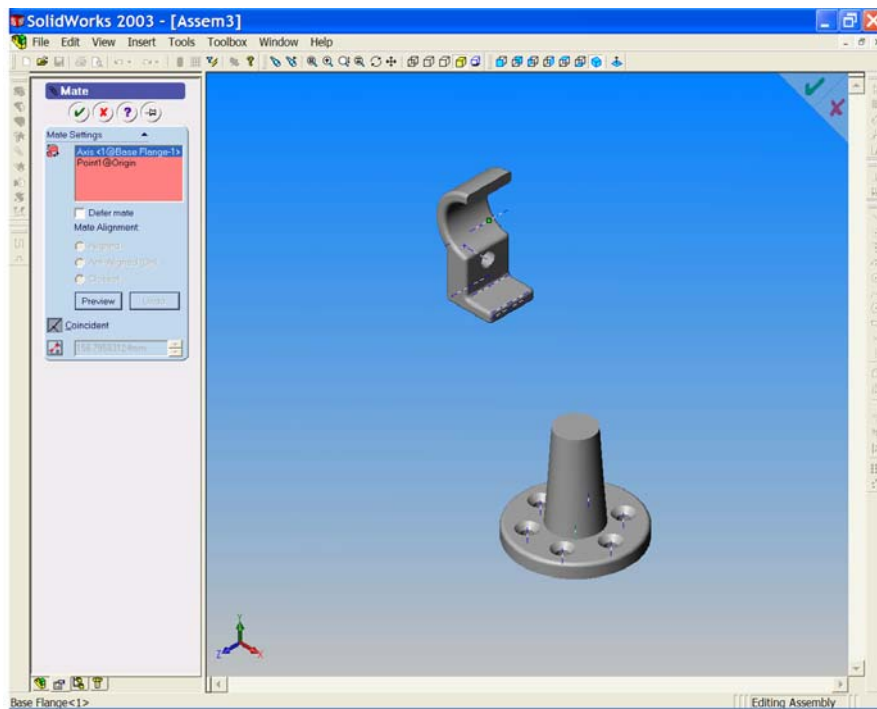

Figure 15
33. Select **'Mates'** note that the origin is already listed in the **'Entities to Mate'** field. Select the vertical axis through the lofted feature and choose **'Coincident'** and **Preview** in the **'Mate Property Manager'**. See Figure 15.